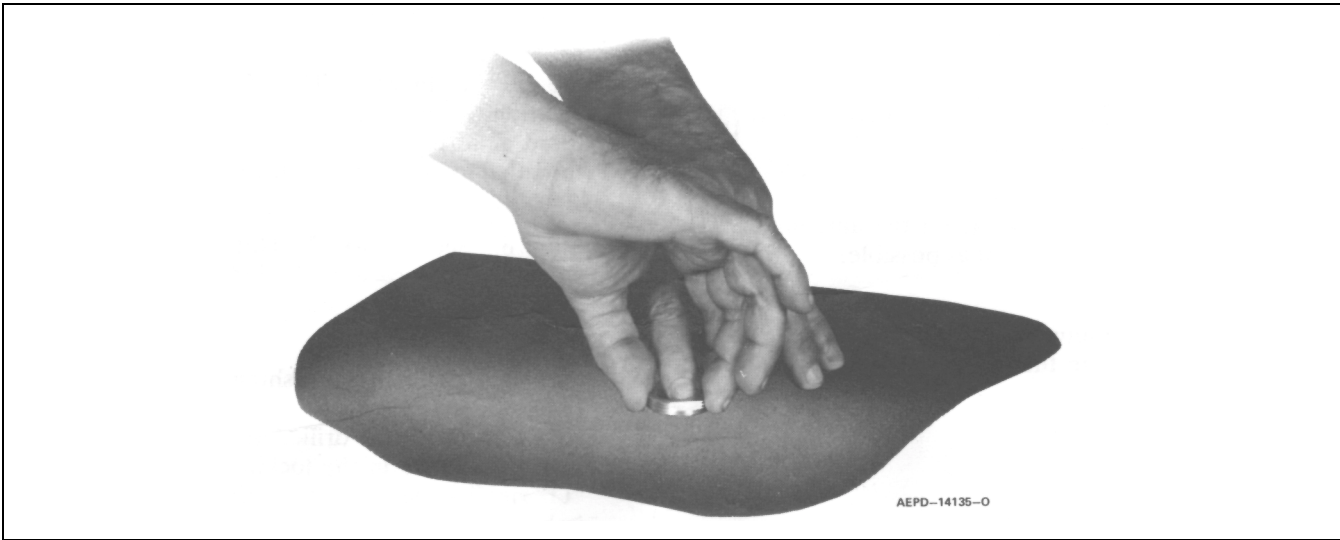

Figure 7. Locking Nut Positioning
6. Refer to Figure 7. Hold the antenna bushing assembly in place with the index finger and thread the locking nut onto it as shown.